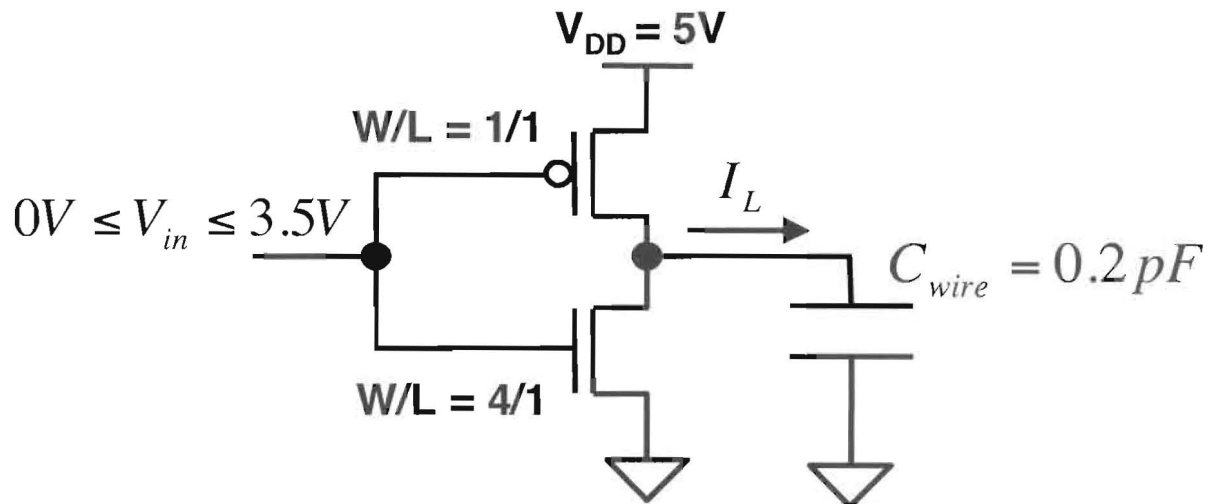

Figure 3: Inverter with reduced input swing.
**Problem 2.1 (8 points)** Figure 3 shows a loaded CMOS inverter but with reduced input voltage swing. Compute the following voltage levels given the limits on  $V_{in}$  (state any assumptions you make):